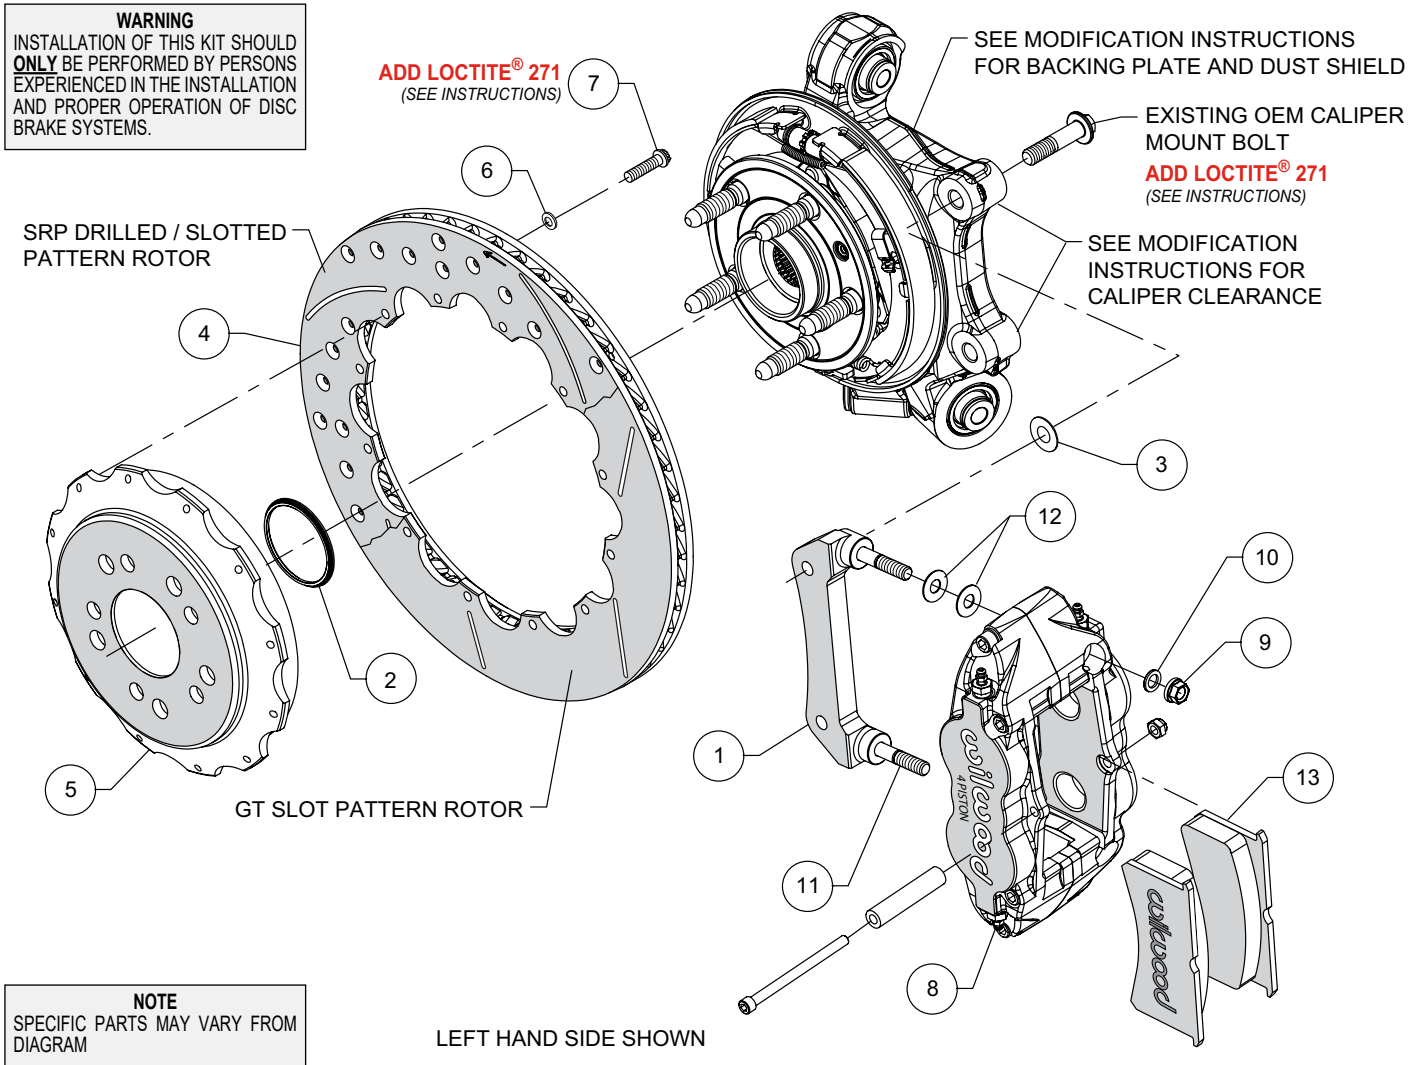
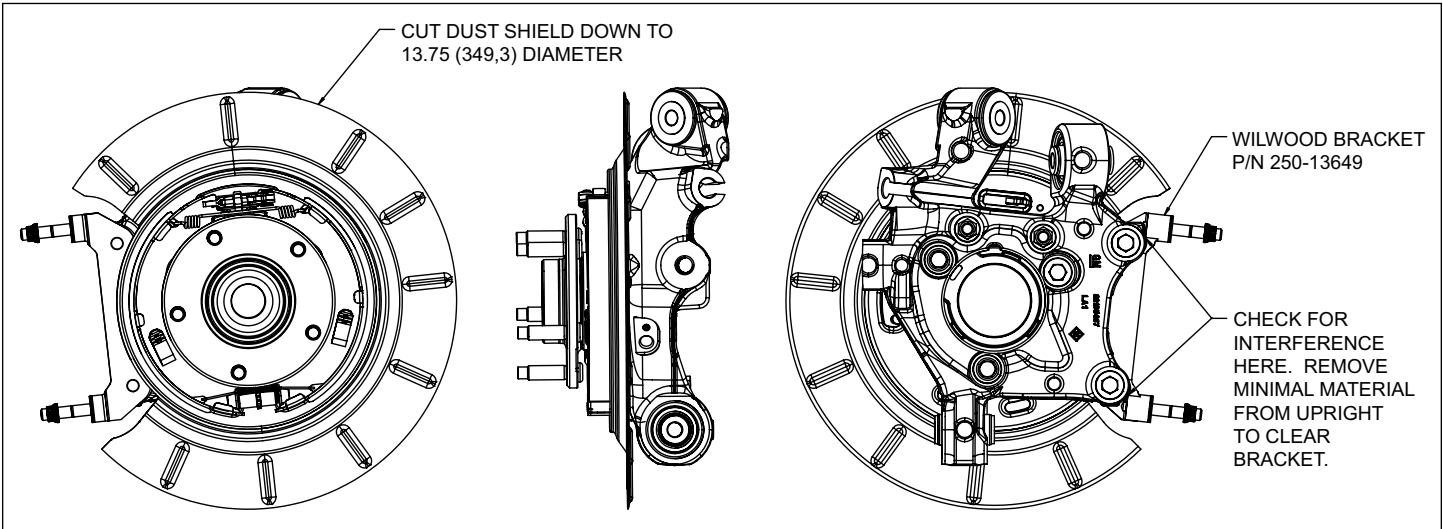
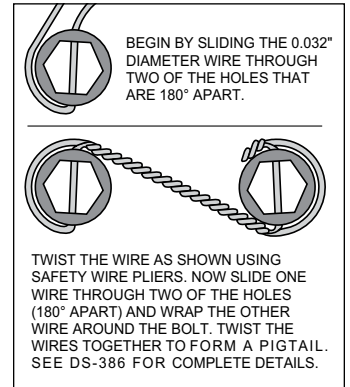

Figure 1. Typical Installation Configuration
Figure 3. Backing Plate / Dust Shield / Caliper Mounting Tabs Modifications
Figure 4. Safety Wire Diagram
•The rear backing plate/dust shield and OE caliper mounting tabs needs to be modified as shown in Figure 3 to clear the new Wilwood rotor and caliper mounting bracket (1). **NOTE:** It is recommended that the backing plate be removed before modification, and the modifications be performed by a qualified machine shop. After backing plate removal, cut the dust shield to 13.75" diameter as shown in Figure 3. Temporarily mount the caliper mounting bracket as shown in Figures 1 and 3. Figure 3, Examine the fit of the bracket against the OE caliper mounting tabs and remove just enough material so that the bracket mounts flush.
NOTE: Numbers in parenthesis refer to the parts list and Figure 1 on the preceding pages.
•The caliper mount bracket (1) should initially be installed with clean, dry threads on the mounting bolts. Orient the bracket as shown in Figure 1, and install using OEM caliper mount bolts. Initially place one .033" thick shim (3), on each bolt between the bracket and upright, Figure 1. Temporarily tighten the mounting bolts. **NOTE:** The bracket must fit squarely against the mount bosses on the upright. Inspect for interference from casting irregularities, machining ridges, burrs, etc. Later, after the caliper alignment has been checked, the mount bolts will be secured using red *Loctite*® 271.
•Orient the rotor (4) and the hat (5) as shown in Figure 1 and Photo 1. Attach rotor to hat using bolts (7) and washers (6). Apply red *Loctite*® 271 to the bolt threads and torque to 140 **in-lb** using a criss-cross pattern. For an added measure of security, the bolts may be safety wired using standard 0.032 inch diameter stainless steel safety wire as shown in Figure 4. Please refer to Wilwood's data sheet DS-386 (available at www.wilwood.com/Pdf/DataSheets/ds386.pdf) for complete safety wire installation instructions.
•Slide the rotor registration adapter (2) onto the axle register on the axle hub with the smaller O.D. facing outward, Photo 2. Align the correct hole pattern in the hat with the stud pattern on the axle hub and slide into place, Figure 1. **NOTE:** The hat must fit flush against the axle hub flange or excessive rotor run out may result. Install three lug nuts (finger tight) to keep the hat/rotor assembly in place while continuing with the installation.
- Initially place two .035" thick shims (12) on each stud (11) as shown in Figure 1 and Photo 3. Mount the caliper (8) onto the bracket (1) using lock nuts (9) and washers (10), Figure 1. Temporarily tighten the lock nuts and view the rotor through the top opening of the caliper. The rotor should be centered in the caliper, Photo 4. If not, adjust by adding or subtracting shims (3) between the bracket and the upright. Once the caliper alignment is correct, remove the bracket mounting bolts one at a time, apply red *Loctite*® 271 to the threads, and torque to 65 ft-lb.